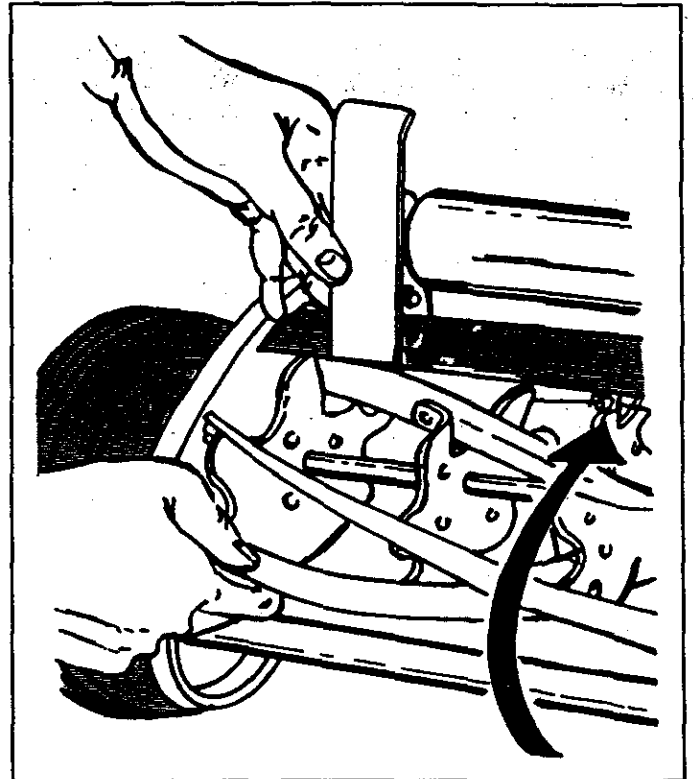

FIGURE 11
- Turn the reel slowly **forward** as shown in figure 11. The paper should be cut cleanly, without the blades contacting the cutter bar.